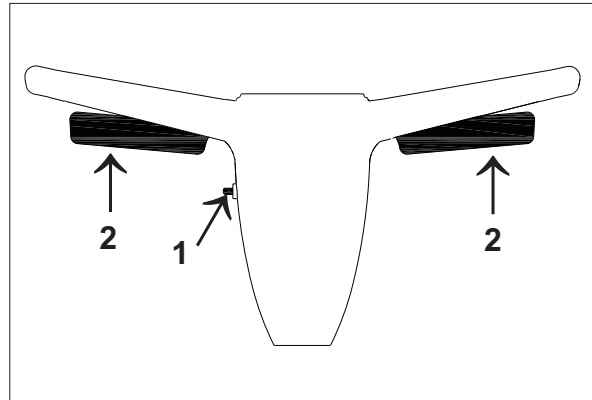

Figure 3
The switch to start and stop the machine is activated by the interlock (1) and the levers (2) under the handle grips. See Figure 3.
3. Push the interlock switch (1), and apply pressure to one of the levers (2). See Figure 3.